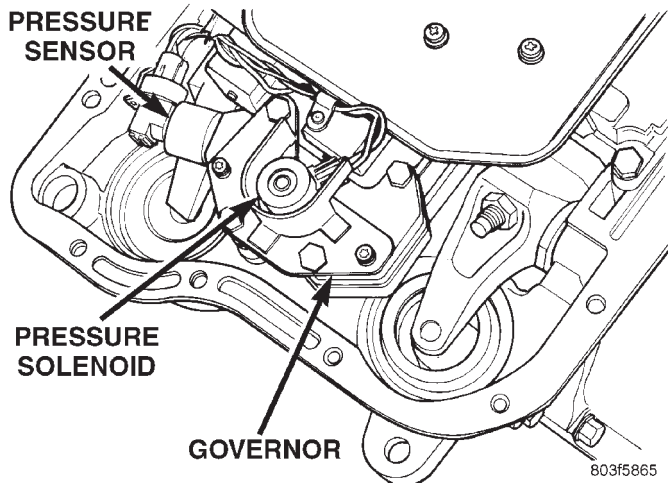
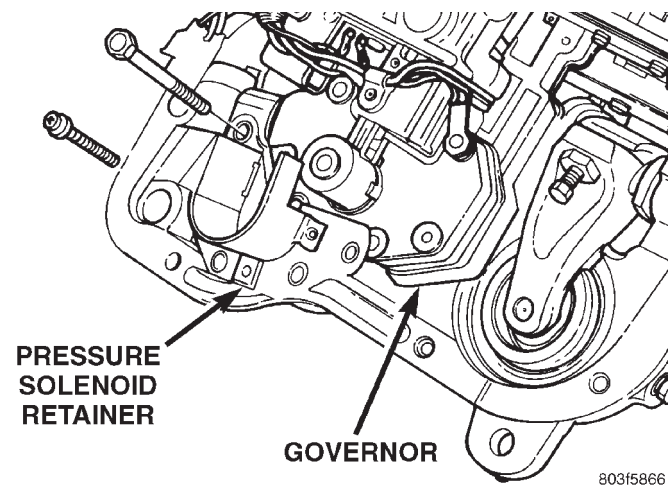

Fig. 33 Governor Solenoid And Pressure Sensor
Fig. 34 Pressure Solenoid Retainer
- (1) Hoist and support vehicle on safety stands.
- (2) Remove transmission fluid pan and filter.
- (3) Disengage wire connectors from pressure sensor and solenoid (Fig. 33).
- (4) Remove screws holding pressure solenoid retainer to governor body.
- (5) Separate solenoid retainer from governor (Fig. 34).
- (10) Push solenoid into governor body.
- (11) Place solenoid retainer in position on governor (Fig. 34).
- (12) Install screws to hold pressure solenoid retainer to governor body.
- (13) Engage wire connectors into pressure sensor and solenoid (Fig. 33).
- (14) Install transmission fluid pan and (new) filter.
- (15) Lower vehicle and road test to verify repair.